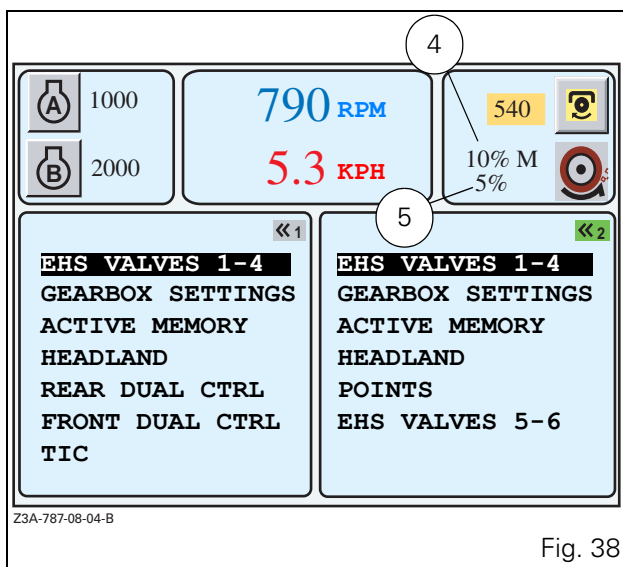

Fig. 38
This application is used to display various parameters stored for tractor use. A certain number of parameters are fixed (Fig. 38, upper part of the screen) while others can be selected by the user (right- and left-hand windows on screen).
- Rotate the encoder (1) to the **WORK** application and press the encoder once the active function is highlighted by red text and a red rectangle around the icon (on b/w screens the elements are highlighted in reverse video). Or press the key «₁ (2). The window (Fig. 38) is displayed.
- To exit an application, press the **ESC** key (3).
7.9.2 - Description (Fig. 38)